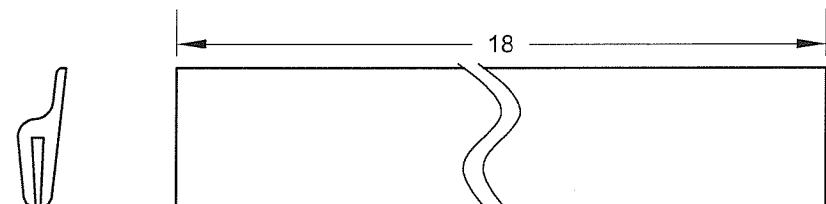

**FIGURE 1: VERTICAL STABILIZER TIP FAIRING INSTALLATION**
Step 1: Trim the width of the molded flange on the VS-1009 Vertical Stabilizer Tip Fairing if required to meet the dimensions given on Page 12-2, Figure 1. Trim away the aft edge of the vertical stabilizer tip fairing so the aft edge is parallel and flush with the vertical edge on the VS-1001 Skin as indicated in Figure 1. This will provide a minimum 1/8 inch gap between the aft face of the vertical stabilizer tip fairing and the forward face of the rudder counterbalance arm.
Step 5: Cleco and rivet the VS-1009 Vertical Stabilizer Tip Fairing onto the vertical stabilizer assembly per the callouts in Figure 1.